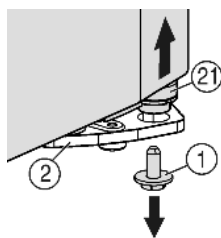
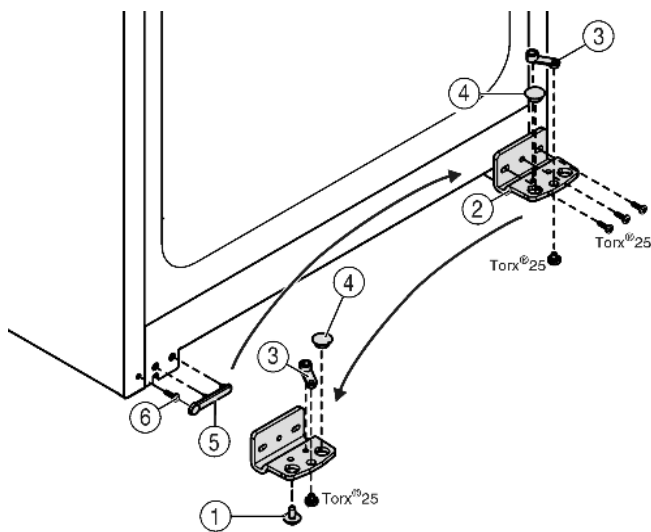

Fig. 5
Fig. 6
- ▶ The bearing pin Fig. 5 (21) should come out of the turn hinge Fig. 6 (2).
- ▶ If the bearing bolt Fig. 5 (21) doesn't undo press it out from underneath.
- ▶ Unscrew the turn hinge Fig. 6 (2).
- ▶ Unscrew the bearing element, Fig. 6 (3) transfer it to the opposite location hole of the turn hinge and screw it firmly into place.
- ▶ Take the stopper Fig. 6 (4) out of the turn hinge and transfer it to the receiving hole on the opposite side of the turn hinge.
- ▶ Carefully lift off the cover Fig. 6 (5) on the handle side.
- ▶ Undo the screw Fig. 6 (6) and transfer it to the opposite side.
- ▶ Put the cover Fig. 6 (5) back on.
- ▶ Screw the turn hinge Fig. 6 (2) firmly into place on the new hinge side (with 4 Nm), possibly using a power screwdriver.
- ▶ Insert the securing screw Fig. 5 (1) at the bottom into the bearing pin and tighten it (with 4 Nm).